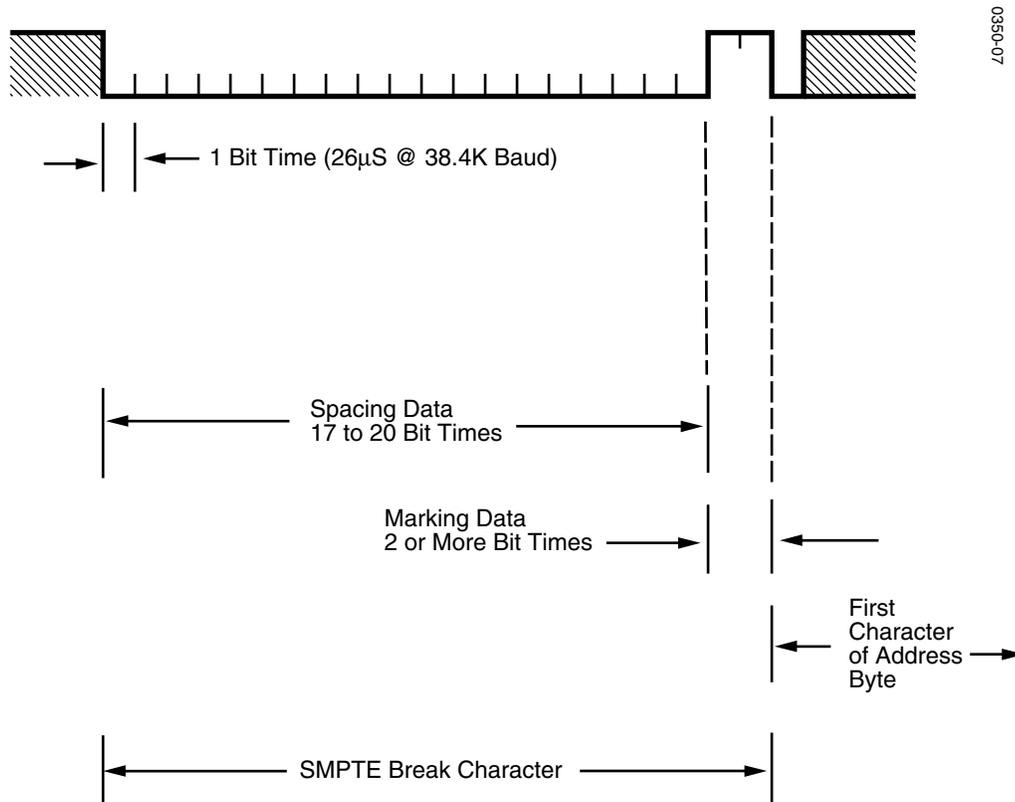

Figure 2-2. Break Character
The main component of the Editor Interface protocol is a 1-1/2 character-length “break.” A break consists of a spacing or logical low (0) condition on the serial bus (see Figure 2-2) followed by a minimum of two bit-times of marking (logic 1) condition. The Bus Controller (editor) transmits a break to the switcher, forewarning of an impending message.
When the Editor Interface detects communication errors, it responds with a negative acknowledge of 85H and then aborts all communications. Any remaining un-executed commands are discarded after the error indication occurs and the Interface is forced back into the Idle state. Refer to Figure 2-2 on page 2-2 and Table 2-1 for details of the detection and corresponding response to each error type.